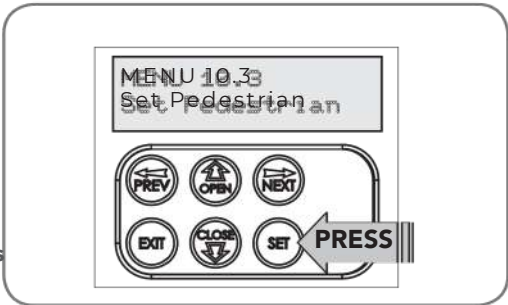

Fig 12.1
- d. Press SET to enter Set Pedestrian procedure (Fig. 12.1).